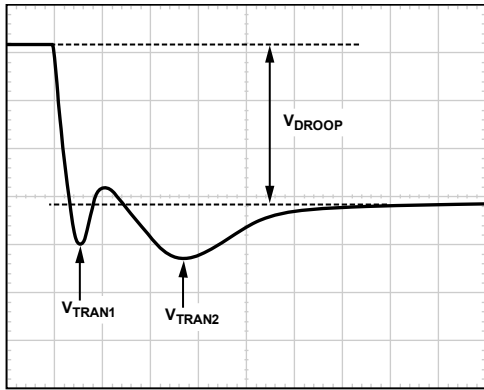

Figure 28. Transient Setting Waveform, Load Step
1. With the dynamic load set at its maximum step size, expand the scope time scale to 2 μ s/div to 5 μ s/div. This results in a waveform that may have two overshoots and one minor undershoot before achieving the final desired value after V_{DROOP} (see Figure 28).